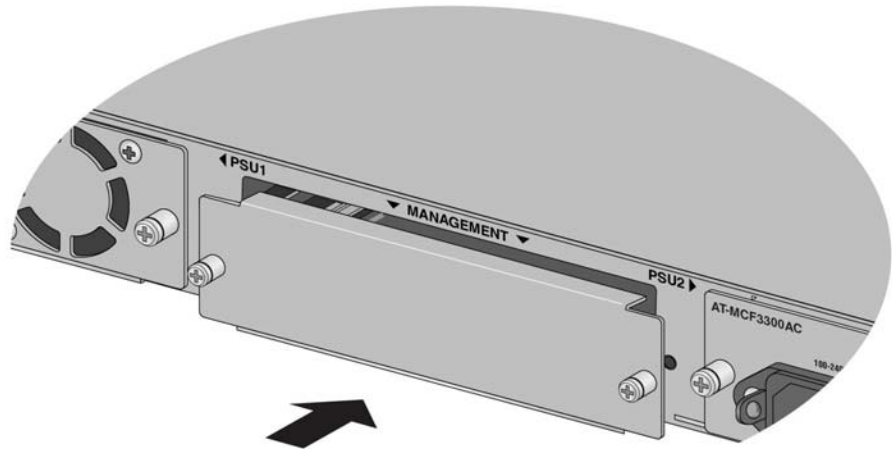

Figure 81. Installing the Blank Management Slot Cover
7. Position the blank cover over the management module slot. Refer to Figure 81.